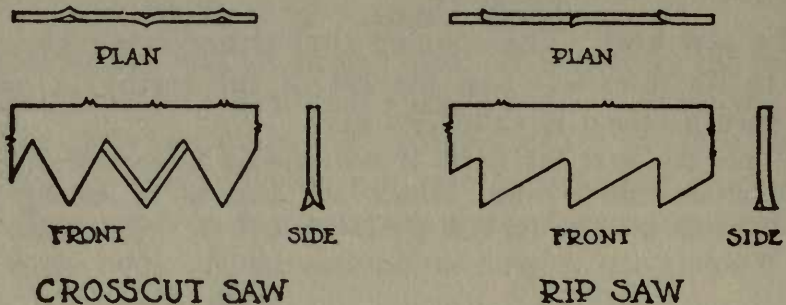

Fig. 17.
4. **The teeth of the crosscut saw are filed to a point.** (See Fig. 17.)
5. The rip saw has teeth filed to a cutting edge. (See Fig. 17.) They are formed like chisels and cut in the same way.